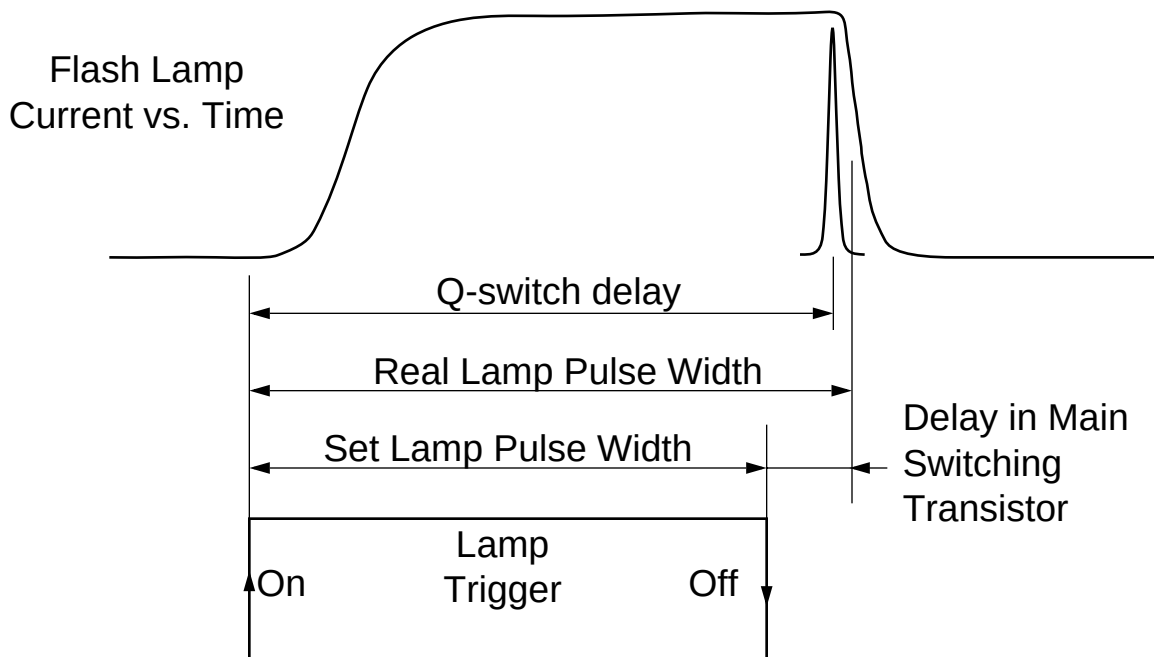
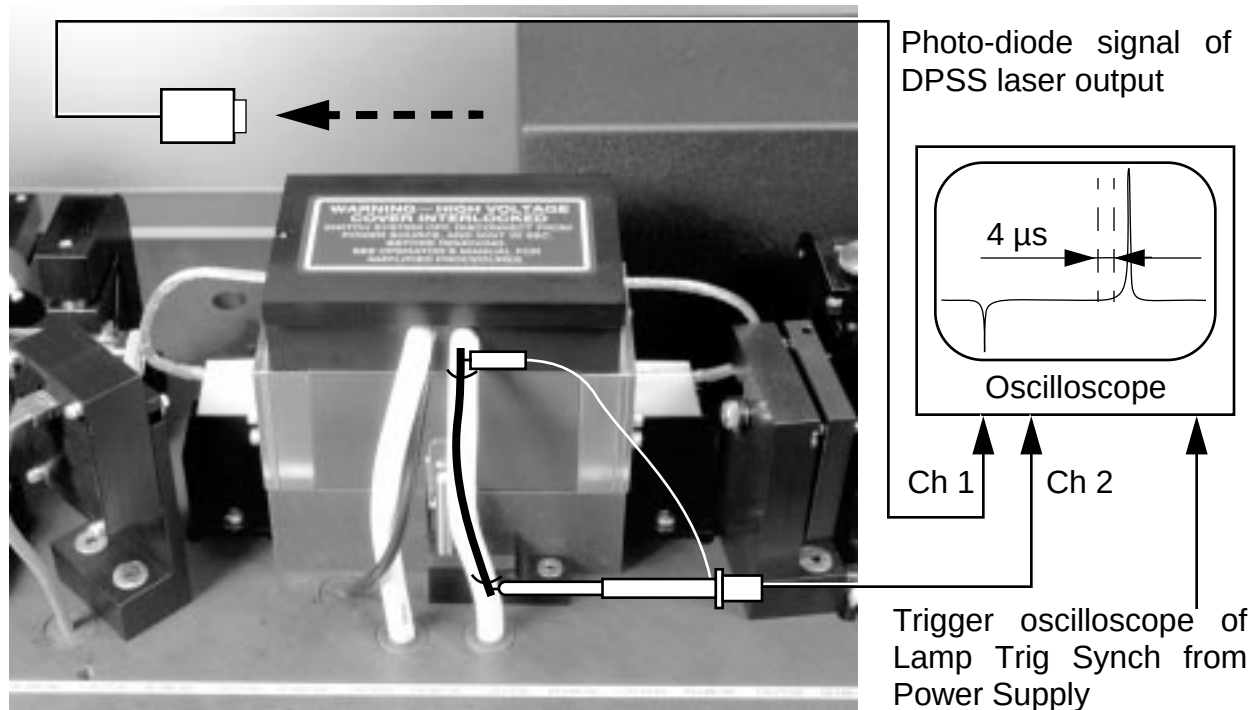

Figure 6-14. Timing of Lamp Trigger, Lamp Current and Q-switch.
Figure 6-15. Setup to Determine Timing Settings for Lamp Pulse and Q-switch.
Due to internal delay in the large transistor that discharges the capacitor bank through the flash lamp, the set and the actual lamp pulse width differ, see Figure 6-14. For precise timing control an oscilloscope with one channel connected through inductive coupling to the “cathode” flash lamp lead and one to a photodiode monitoring the Q-switch pulse, can be used. This setup is illustrated in Figure 6-15.
1. Open the Infinity head cover and install the interlock defeat. Tape a piece of electrical wire, $\sim 8 \text{ cm}$ long, in parallel to the white cathode flash lamp cable, Figure 6-15.
5. Set the system repetition rate to its maximum value and set the IR energy to 1 mJ. Start the Infinity laser system. The solid trace in Figure 6-15 shows the derivative of the lamp current (inductive coupling). This trace should be observed on the oscilloscope.